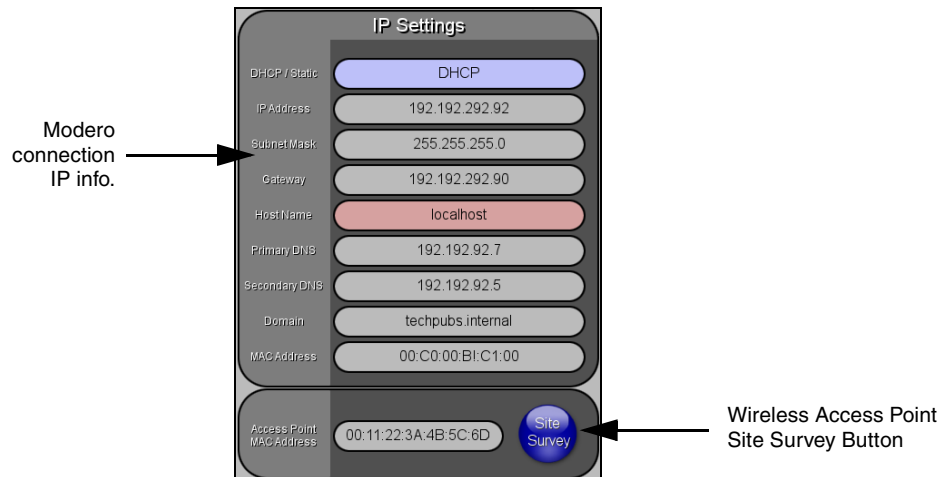

FIG. 58 Wireless Settings page (IP Settings section)
3. Press the **Wireless Settings** button (located on the lower-left) to open the Wireless Settings page. Wireless communication is set within the IP Settings section of this page (FIG. 58).